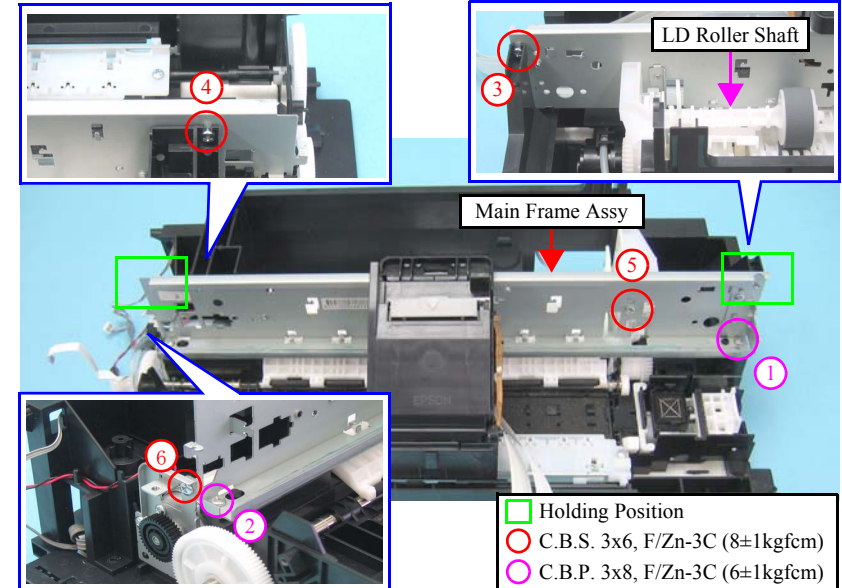

Figure 4-79. Removing the Main Frame Assy
- Tighten the screws in the order given in Figure 4-79.